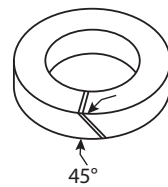

FIGURE 2
3. **IMPORTANT.** Packing is supplied as a complete set and rings should be installed in same order as packaged in the set. Rings are either one piece solid or in a split form. The solid rings may be or in a split form. The solid rings may be cut (one cut per ring) to facilitate installation. Rings should be cut using a razor blade or other similar thin sharp tool. Use a sawing action to cut a 45° slit as shown in Fig. 2. Do not apply any type of lubrication to the stem, stuffing box or packing.